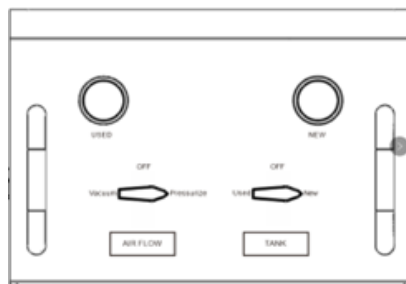

Fig 9.
6. Arranque el motor y compruebe el nivel del anticongelante de nuevo. Si el nivel de anticongelante se descende, gire la valvula izquierda "AIR FLOW" en el panel a posicion "Pressurize", la valvula derecha "TANK" a la posicion "New" (Fig. 9), abra la valvula en la manguera de fluido nuevo(roja) (Fig.8), luego abra la valvula de aire taller para agregar mas anticongelante nuevo al vehiculo.
4. Connect the conical adapter and direct it to the overflow tank. Turn the left valve on the "AIR FLOW" panel to the "Pressurize" position, the right valve "TANK" to the "New" position, open the valve on the new fluid hose (red), then open the workshop air valve to add new antifreeze to the vehicle through the overflow tank. As illustrated above in Fig.8 and Fig.9. 5. Start the engine and check the antifreeze level. If the antifreeze level drops, turn the left "AIR FLOW" valve on the panel to "Pressurize" position, the right "TANK" valve to "New" po-
sition (Fig.9), open the valve on the new fluid hose (red) (Fig.8), then open the workshop air valve to add more new antifreeze to the vehicle.
5. Start the engine and check the antifreeze level. If the antifreeze level drops, turn the left "AIR FLOW" valve on the panel to the "Pressurize" position, the right valve to the "New" position (Fig. 9), open the valve on the new (red) fluid hose (Fig.8), then open the workshop air valve to add more new antifreeze to the vehicle through the vehicle overflow tank.